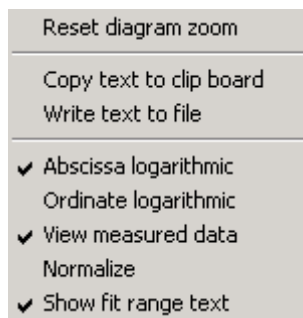
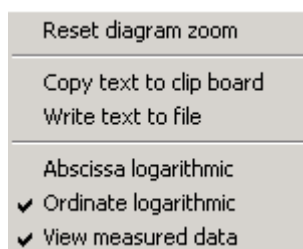

Fig. 9-103 Context menu of the Fit Correlation diagram
Fig. 9-104 Context menu of the Fit PCH diagram
- Click on the diagram with the **right** mouse button to open the context menu for the **Fit Correlation** (Fig. 9-103) and **Fit PCH** diagrams (Fig. 9-104), respectively.